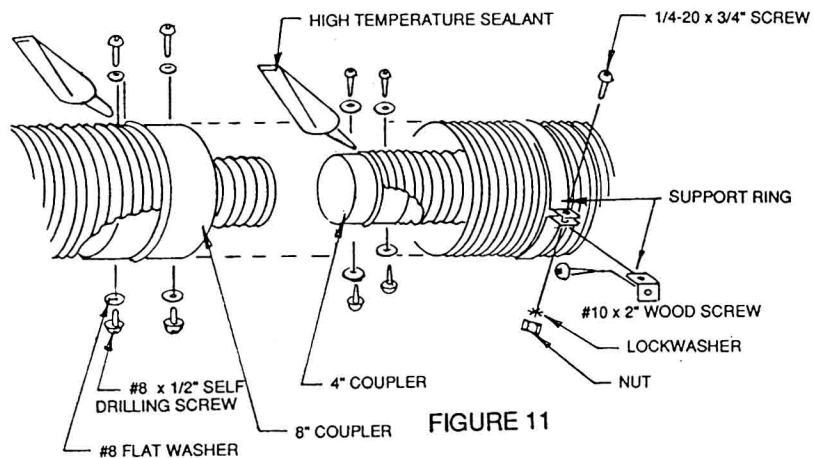
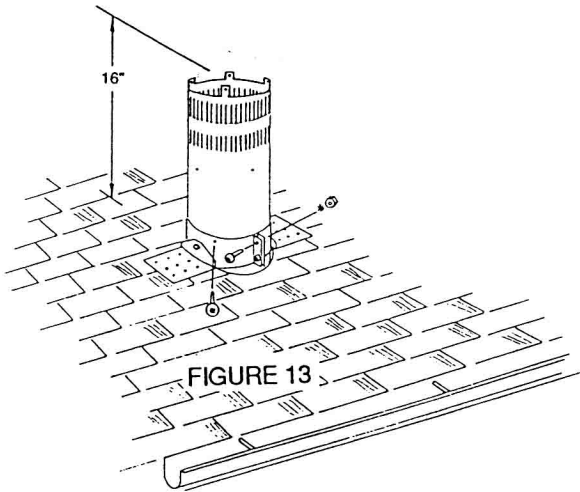

FIGURE 11
FIGURE 13
6. If more than one length of liner needs to be used to reach the fireplace, couple them together as illustrated in Figure 11. Seal the joints using the same procedure as described in Points 4 and 5 above.
The vent system must be supported approximately every 3 feet, for both vertical and horizontal runs (Fig. 11). Use support rings provided.
4. Attach the telescoping sleeve to the air terminal and secure using the 3 screws provided (Fig.13). Slip an 8" diameter length of aluminum flexible liner a minimum of 2 inches over the outer sleeve of the air terminal. Secure to the sleeve using 3 screws and flat washers. Seal the joint and screw heads using the high temperature sealant (Fig. 11).
5. Thread the air terminal assembly liner down through the roof support, clamping the support to the air terminal (Do not clamp the flexible aluminum liner). Fasten the air terminal to the roof support using the screws provided. The air terminal must be located vertically and plumb, a minimum of 16" above the point where it penetrates the roof (Fig. 13).
8. If more liner needs to be used to reach the fireplace, follow the same procedure as found in Section 4.1 point 6 above. The venting system must be supported approximately every 3 feet, for both vertical and horizontal runs (Fig. 11).